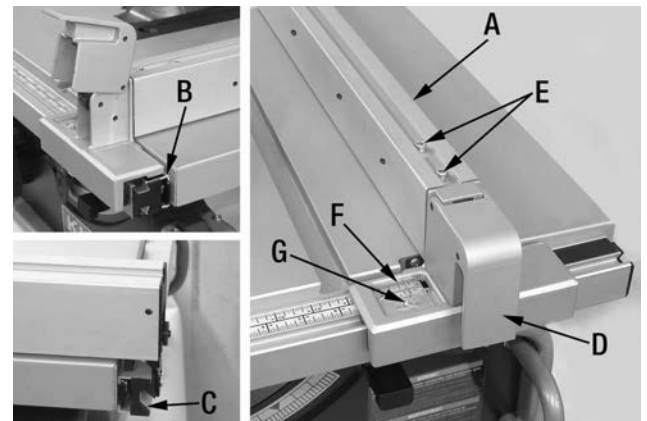

FIGURE 10
1. Align the front of the rip fence (A) Fig.10 with the side of the front rail (B). Align the back end of the rip fence with the side of the rear rail (C). Slide rip fence assembly onto both rails. Check to make sure the rip fence locking lever (D) is in the unlocked up position and rip fence slides freely on the rails.
2. Lower rip fence locking lever (D) to lock the rip fence in place.
To reduce the risks of kickback, the rip fence must be perfectly parallel to the blade. Unlock rip fence by raising locking lever (D) Fig.10. Loosen both cap screws (E) on top of the rip fence using a hex. key. Align the rip fence parallel with the blade and retighten both cap screws. Adjust the rip fence pointer (F) to the same marking by loosening pointer screw (G) and reposition pointer.